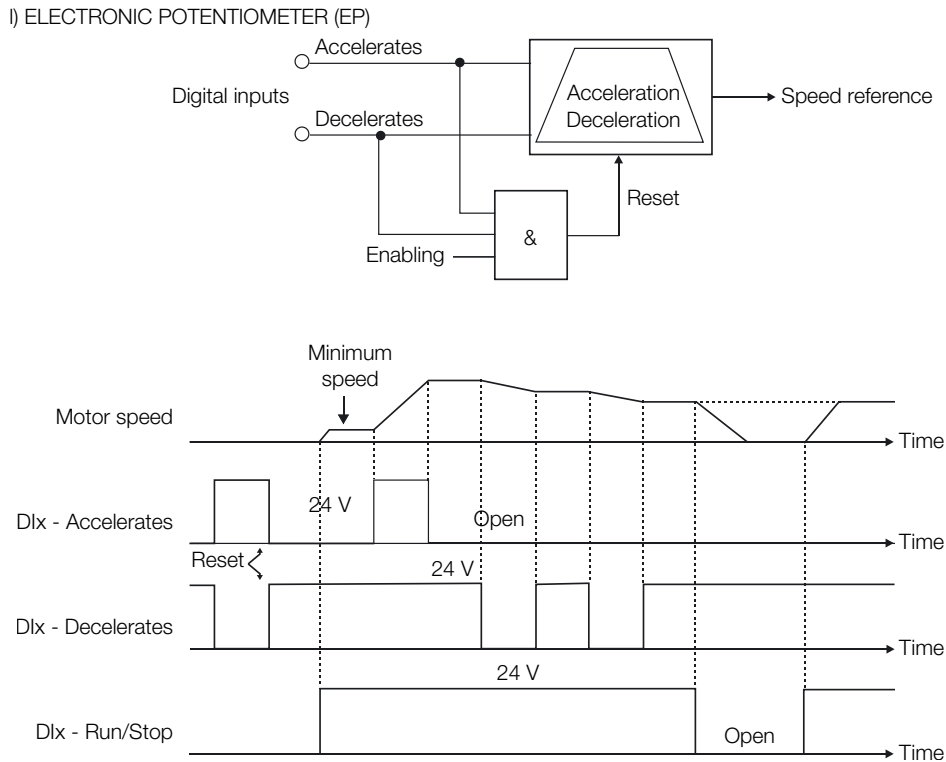

Figure 5.36: (a) to (l) Details on the operation of the digital input functions
- The **‘Electronic Potentiometer’** (E.P.) function allows the speed reference to be adjusted through 2 digital inputs (one to increment it and the other to decrease it). To enable this function, you must first configure the speed reference for E.P., setting P0221 = 7 and/or P0222 = 7. After enabling this function, simply program DI3 or DI5 (P0265 or P0267 = 5) and DI4 or DI6 (P0266 or P0268 = 5). The operation of this function can be seen in Figure 5.36 on page 5-60. It is important to note that the increase of the reference is made with the application of 24 V at the digital inputs, while the decrease is done with the application of level 0 V. To reset the reference to zero, apply 24 V at the “Increase EP” input and 0 V at the “Decrease EP” input simultaneously with the inverter disabled. Thus: